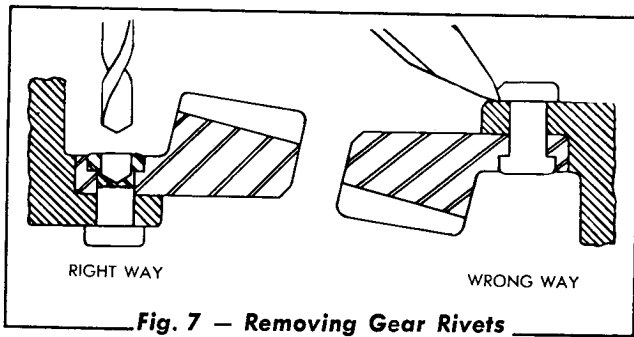

Fig. 7 - Removing Gear Rivets
- b. Using a drill $\frac{1}{16}$ " smaller than the body of the rivet, drill through the rivet body as shown in Fig. 7. Press out the rivet.
IMPORTANT: Under no circumstances should any attempt be made to remove the rivets by using a chisel as it is possible to elongate the rivet holes in the flange (refer to Figs. 7 and 8).